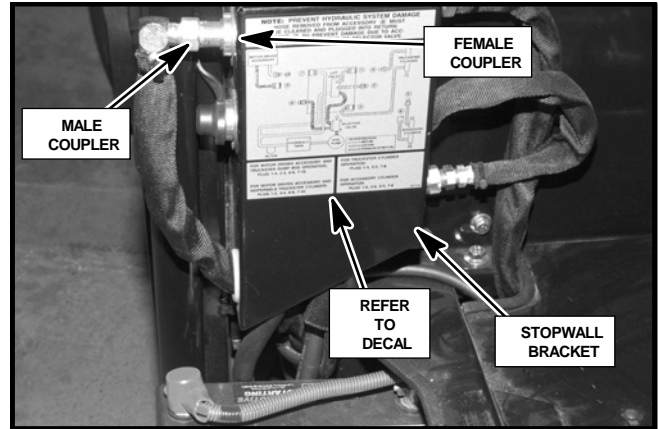

Figure 50
11. Disconnect the two quick couplers at stopwall bracket (See Fig. 50).